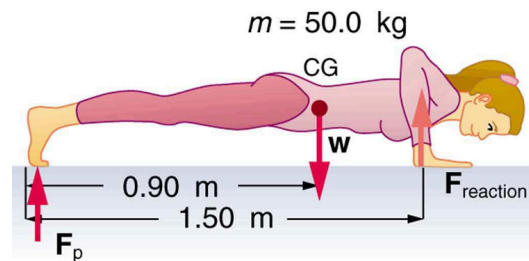

Figure 9.44 A woman doing pushups.
37. (a) What force should the woman in Figure 9.44 exert on the floor with each hand to do a push-up? Assume that she moves up at a constant speed. (b) The triceps muscle at the back of her upper arm has an effective lever arm of 1.75 cm, and she exerts force on the floor at a horizontal distance of 20.0 cm from the elbow joint. Calculate the magnitude of the force in each triceps muscle, and compare it to her weight. (c) How much work does she do if her center of mass rises 0.240 m? (d) What is her useful power output if she does 25 pushups in one minute?